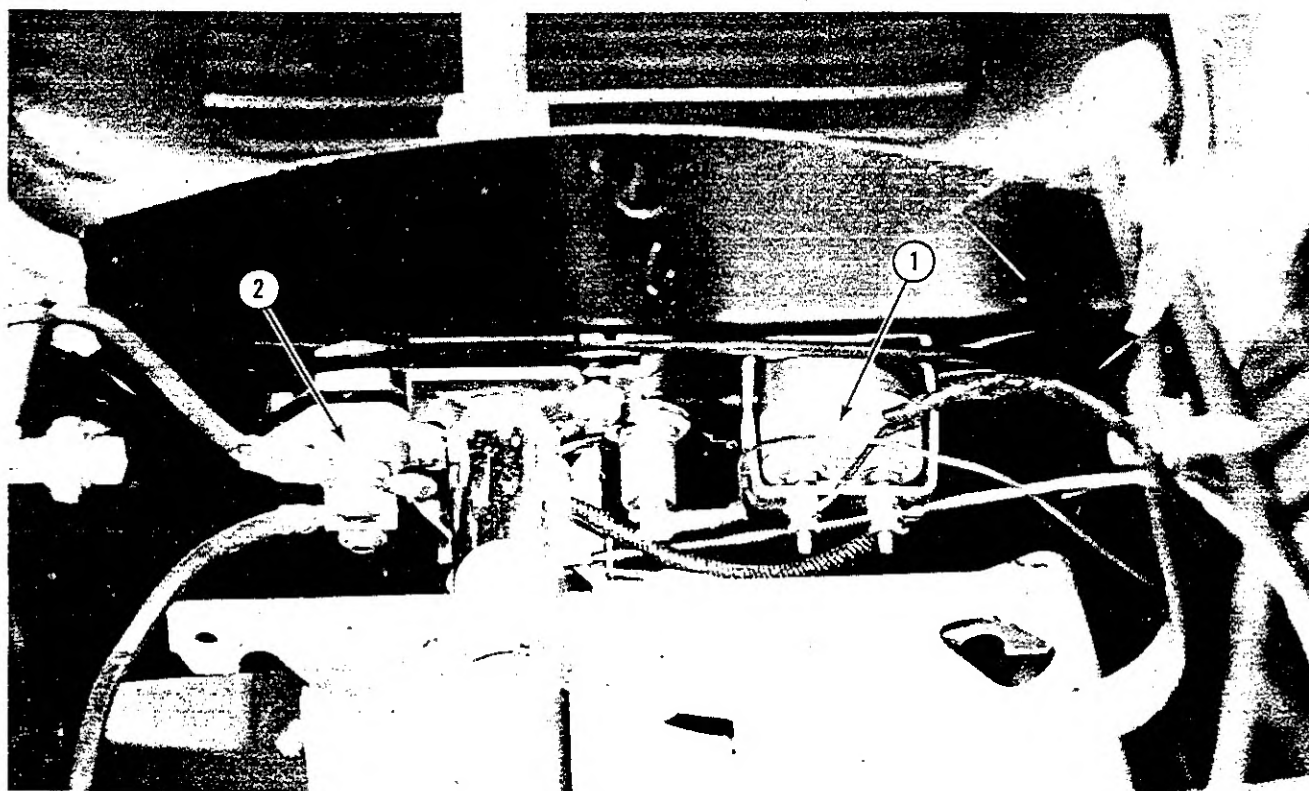
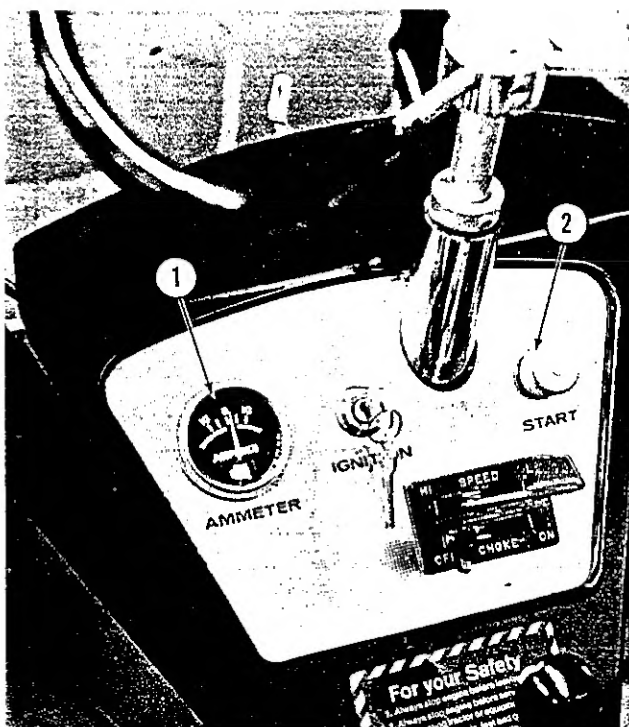

Fig. SG-6
Fig. SG-7
Remove the two button plugs from the front panel and install the ammeter in the left hand side and the starter switch on the right hand side, (1) and (2), Fig. SG-6, also (1) and (2), Fig. SG-7.